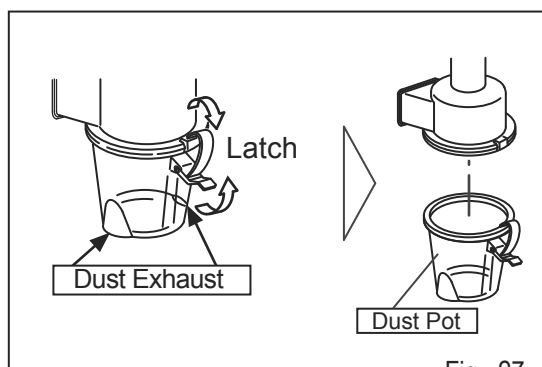

Fig. 27
- a. Latch off to remove Dust Pot..(Fig27)